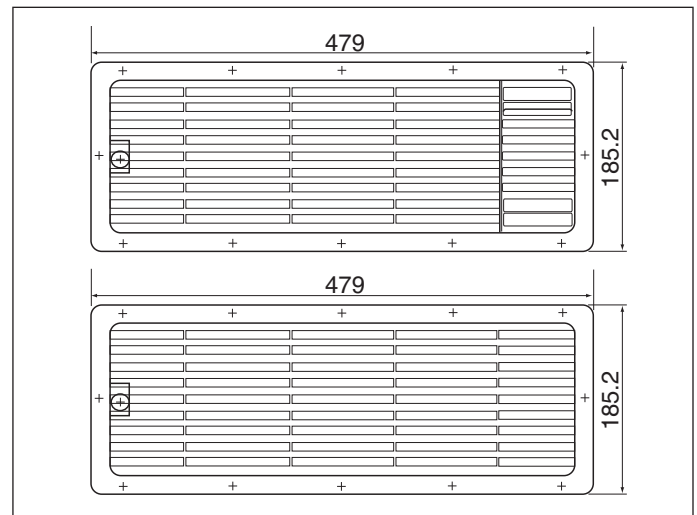

Figure 5-2.
2. Are the ventilation openings sufficient (250cm²)? (See Figure 5-2)